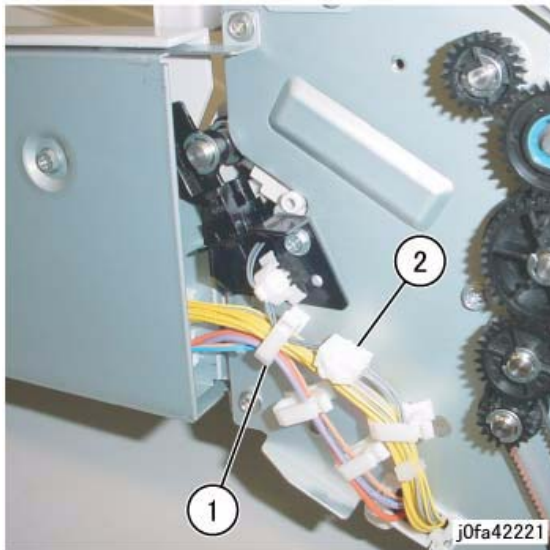

Figure 1 Disconnecting Connector
5. Disconnect the Connector (Figure 1):